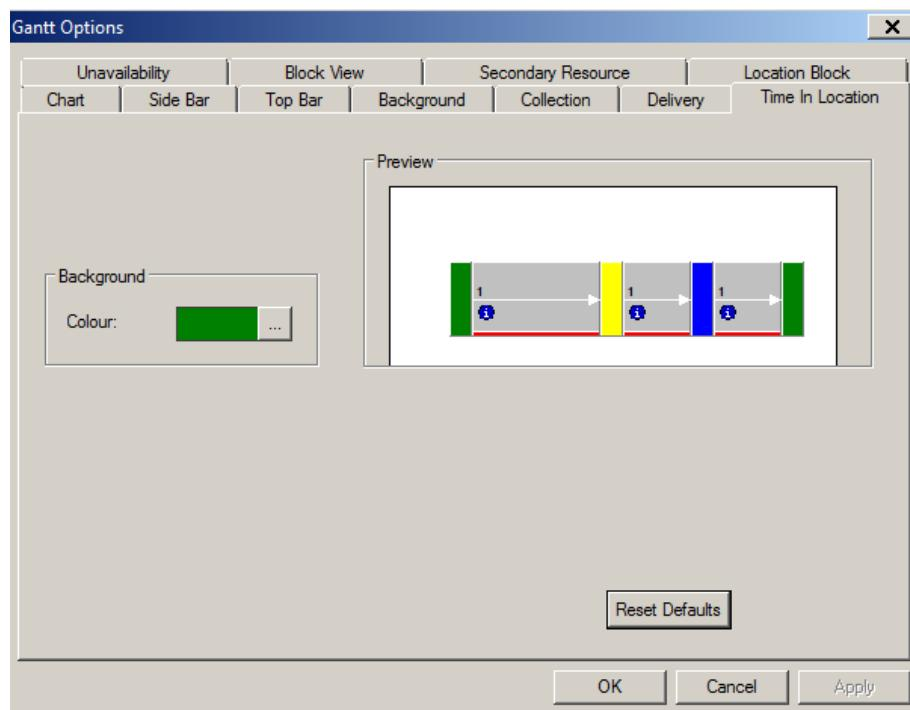

Figure 197
1. Click the Time in Location Tab (Figure 197)